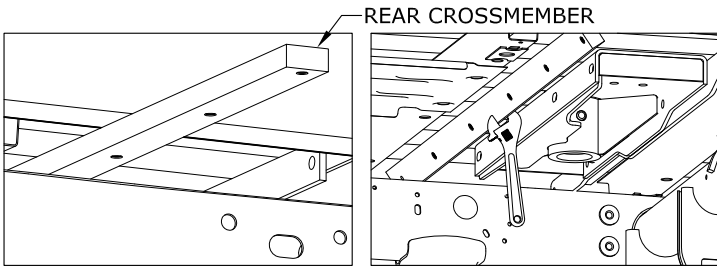

FIGURE B7: Rear Cross Member FIGURE B8: Rear Cross Member
- 3. Place the rear cross member (1" X 2" bar).** Slide the cross member between the bed and the frame just rearward of the center section until it spans both frame rails, see figure B7. The holes in the crossmember are closer to one edge than the other. Rotate the cross member  $\frac{1}{4}$  turn so that the holes are closest to the bottom of the cross member. The narrow space between the bed and the frame will make it difficult to rotate the cross member. Rotation of the cross member can be made easier by using an adjustable wrench for leverage, see figure B8.